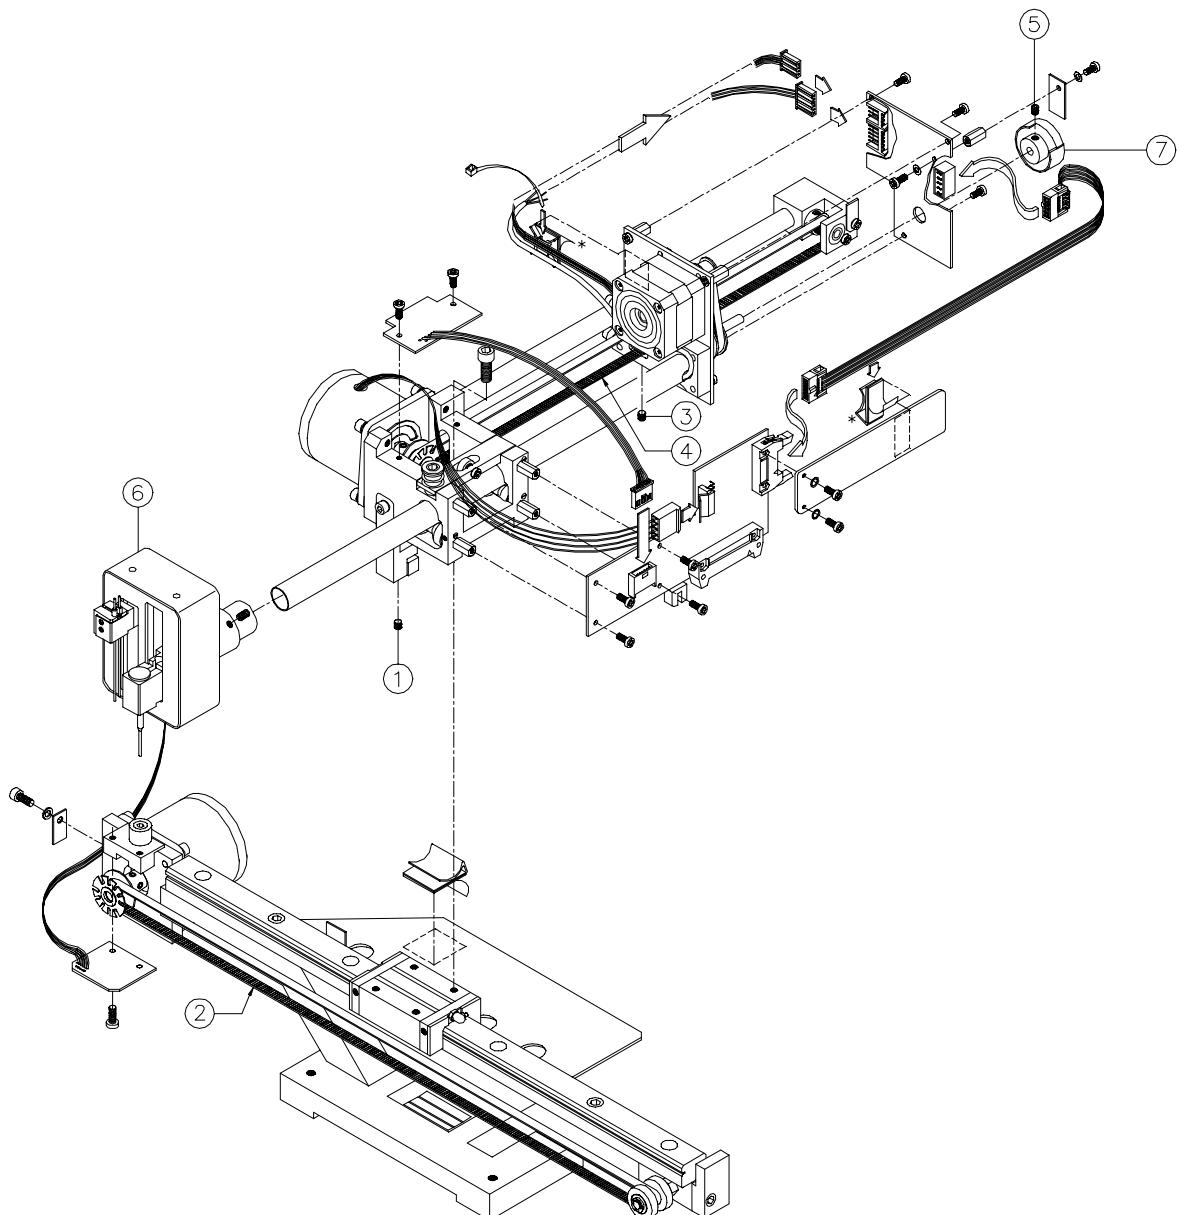

Fig.13.9
13.7 - X - Y - Z AXES (see fig.13.9)
13.7.2 - Z AXIS ALIGNMENT (See fig.13.9)